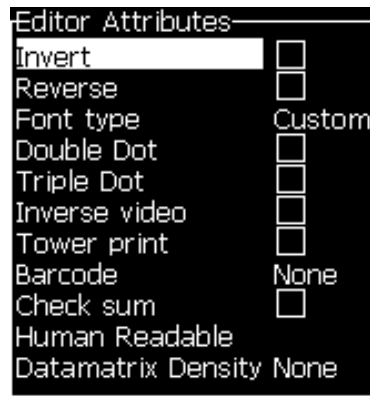

Figure 5-52: Editor Attributes Menu
- 1 Select *In-line Attributes* from the *Editor* menu (press *ALT + E*). The *Editor Attributes* menu appears (see Figure 5-52 on page 5-57).